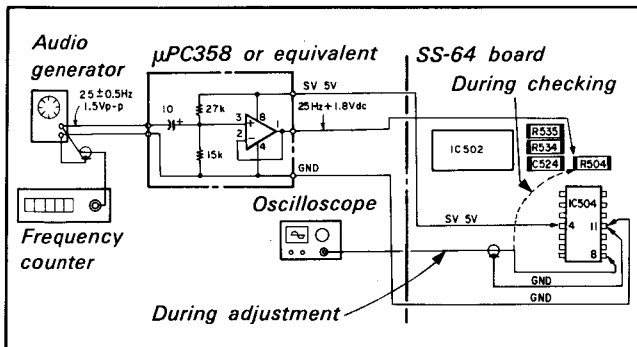

Fig. 9-4.
Signal	See Fig. 9-4
- 2) Connect an oscilloscope to R504 and check the following 2 points: (See Fig. 9-4)